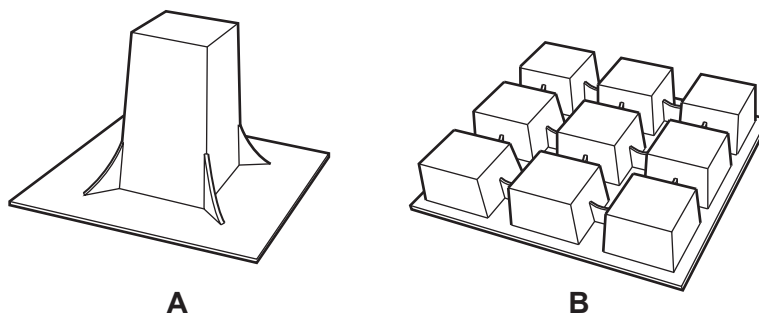

Fig. 5.1
- 5 Fig. 5.1 shows vacuum formed plastic sheets, **A** and **B**, that were formed using two different moulds.